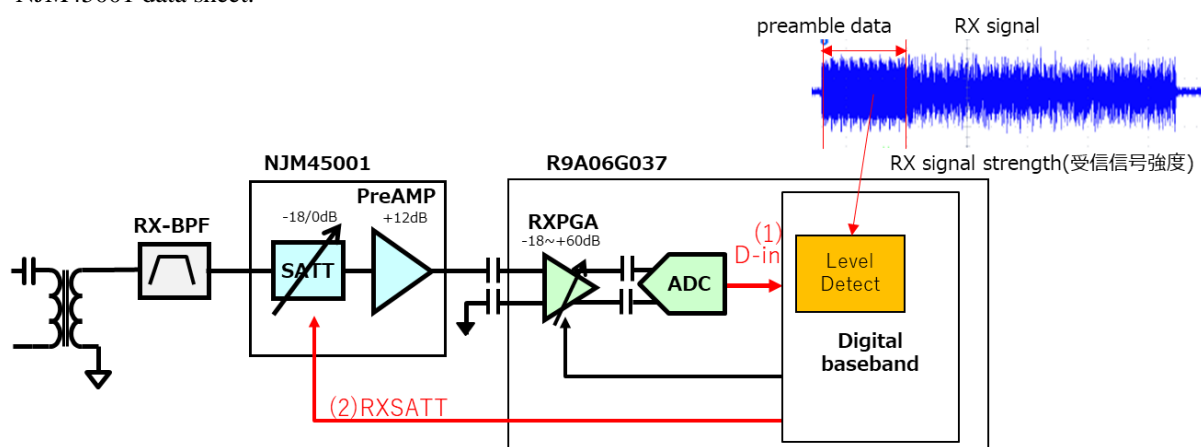

Figure 3-9 Step Attenuator (SATT) control method
- Figure 3-9 shows how to control SATT.